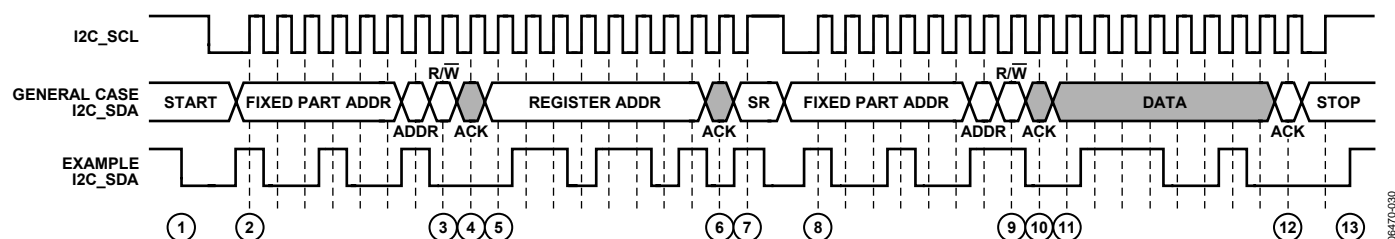

Figure 30. I²C Read Procedure
To read data from the AD8196 register set, an I²C master (such as a microcontroller) needs to send the appropriate control signals to the AD8196 slave device. The signals are controlled by the I²C master, unless otherwise specified. For a diagram of the procedure, see Figure 30. The steps for a read procedure are as follows:
9. Send the read indicator bit (1).
- a. Send a stop condition (while holding the I2C_SCL line high, pull the SDA line high) and release control of the bus to end the transaction (shown in Figure 30).